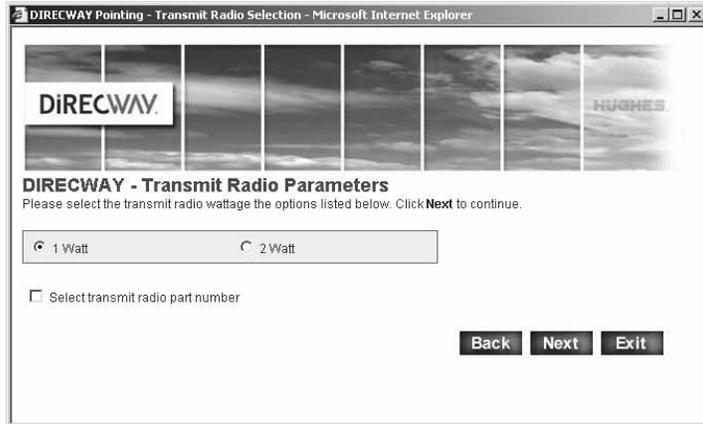

Figure 25: Selecting the transmit radio
10. Select the transmit radio type on the Transmit Radio Parameters screen shown in Figure 25.